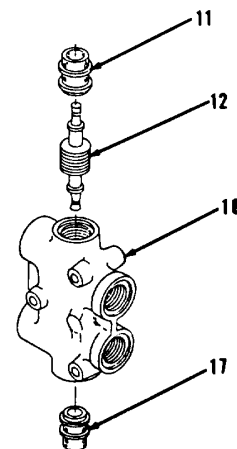

Figure 10-71.
1. Using dry ice or freezer, lower temperature of seat (17, Figure 10-71).
2. Using an alignment punch and hammer, install seat (17) in check valve body (18).
3. Install piston (12).
4. Using dry ice or freezer, lower temperature of seat (11).
5. Using an alignment punch and hammer, install seat (11).